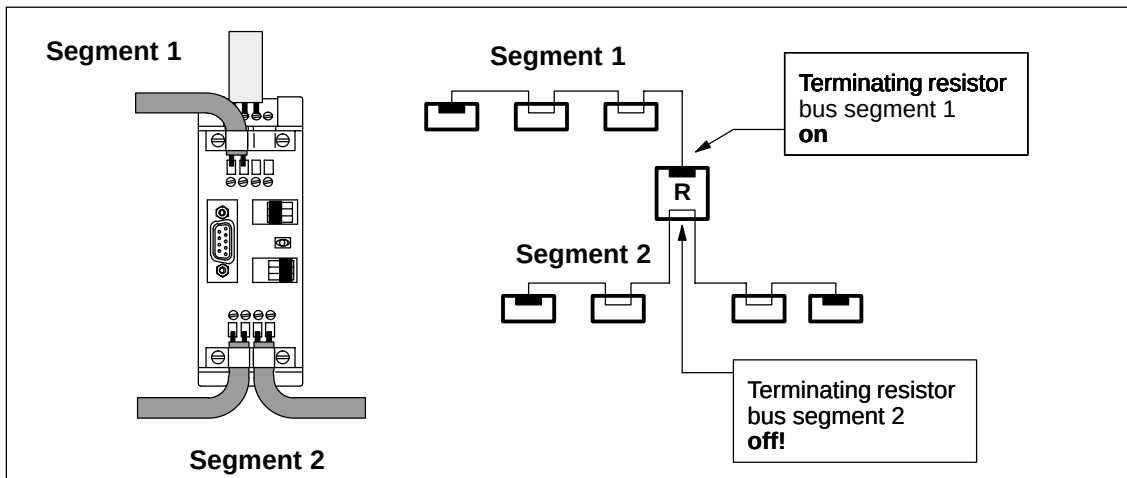

Bild 5-4 Connecting Two Bus Segments to the RS-485 Repeater
- Segment 1 terminated on the RS-485 repeater and segment 2 connected through on the RS-485 repeater (see Figure 5-4)
Figure 5-4 shows the connection between two segments via an RS-485 repeater with one segment connected through: